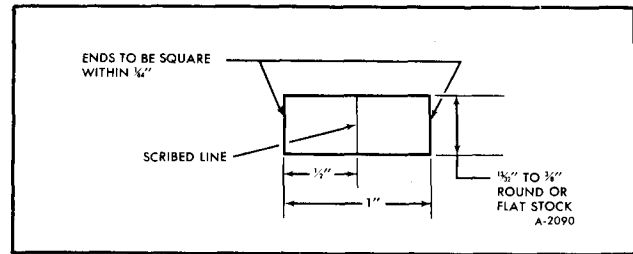

Figure 12—Vacuum Modulator Test Gauge
3. **Bellows Comparison Check.** Make a comparison gauge, as shown in Figure 12, and compare the load of a known good Hydra-matic modulator with the assembly in question. Modulator Tension Tester such as J-24466 may also be used for this purpose.